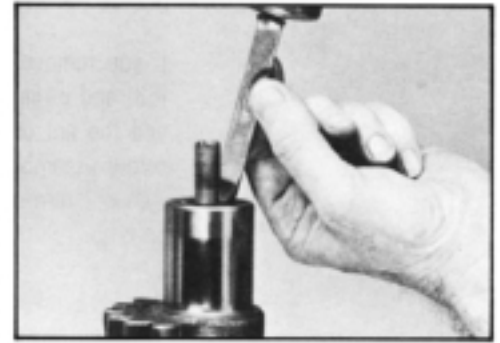

Figure 143
37. If the adjusting screw (50) has been removed from the sector shaft (51), clamp the sector shaft into a soft-faced vise by gripping the serrated end. Coat the expanded end of the **new** adjusting screw with a suitable grade of wheel bearing grease and insert into recess in end of sector shaft. Thread a **new** sector shaft screw retainer (49) into the sector shaft and adjust to permit free rotating of sector shaft adjusting screw by hand without perceptible end play, .000 to .002 in. (.05 mm) loose. Stake the new retainer into the two slots provided using a suitable punch and again check freedom of adjusting screw movement and end play. SEE FIGURE 143.